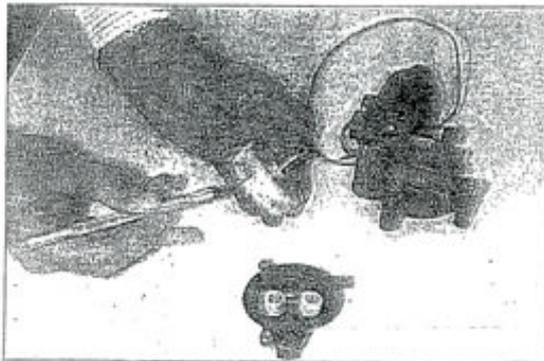

FIG. 8
**Note:** For easy installation of the gear back into the housing, use a sharp hobby knife to trim the flat ridge along the lower edge of several gear teeth so they will mesh with the worm gear. (Figs. 8 & 9)